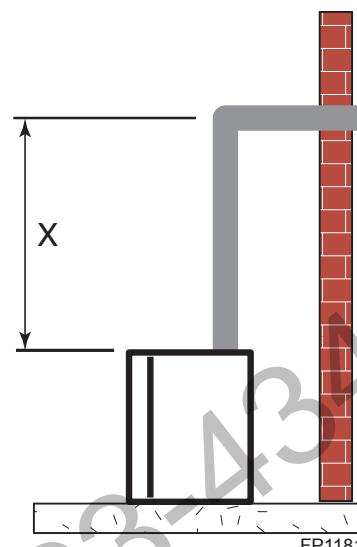

Figure 17 -
Place fireplace into position. Measure the vertical height (X) required from the base of the flue collars to the center of the wall opening. *Figure 17*